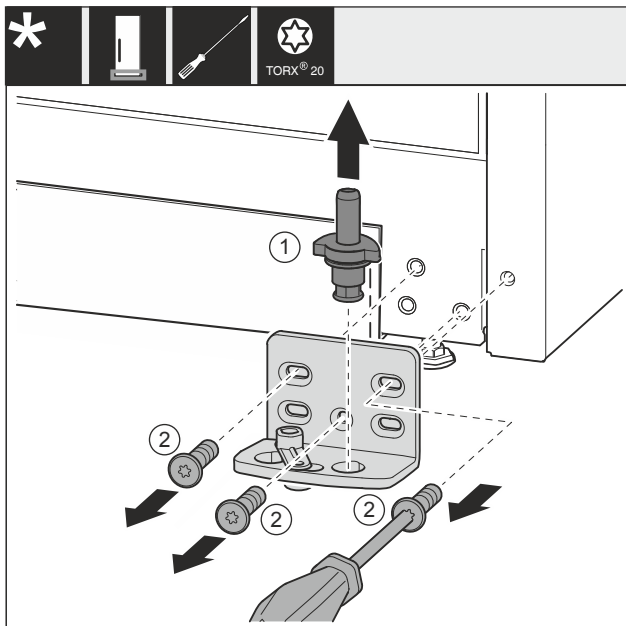

Fig. 34 *
- Pull the bearing bolt Fig. 34 (1) out upwards completely.*
- Use screwdriver to unscrew the screws Fig. 34 (2) and remove the swap bearing block.*